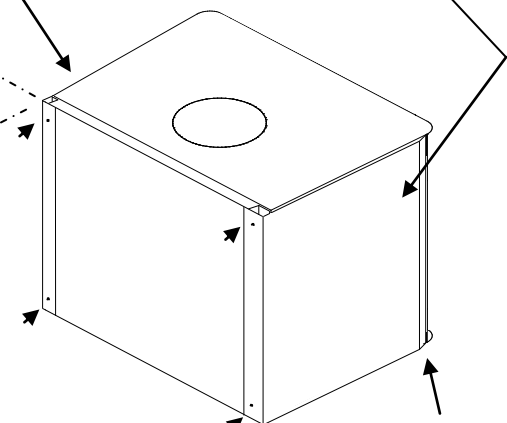

Figure 11b
2. Insert front end of side shield behind side angle on front side of stove. Align top of side shield with top of back shield. Mark holes on back shield through holes in back of side shield. Using four self tapping screws, drill four holes in the locations marked. Tighten bottom screws and leave top screws loose for step 3. Use same step to install side shield on opposite side of stove. (See figure 11b).